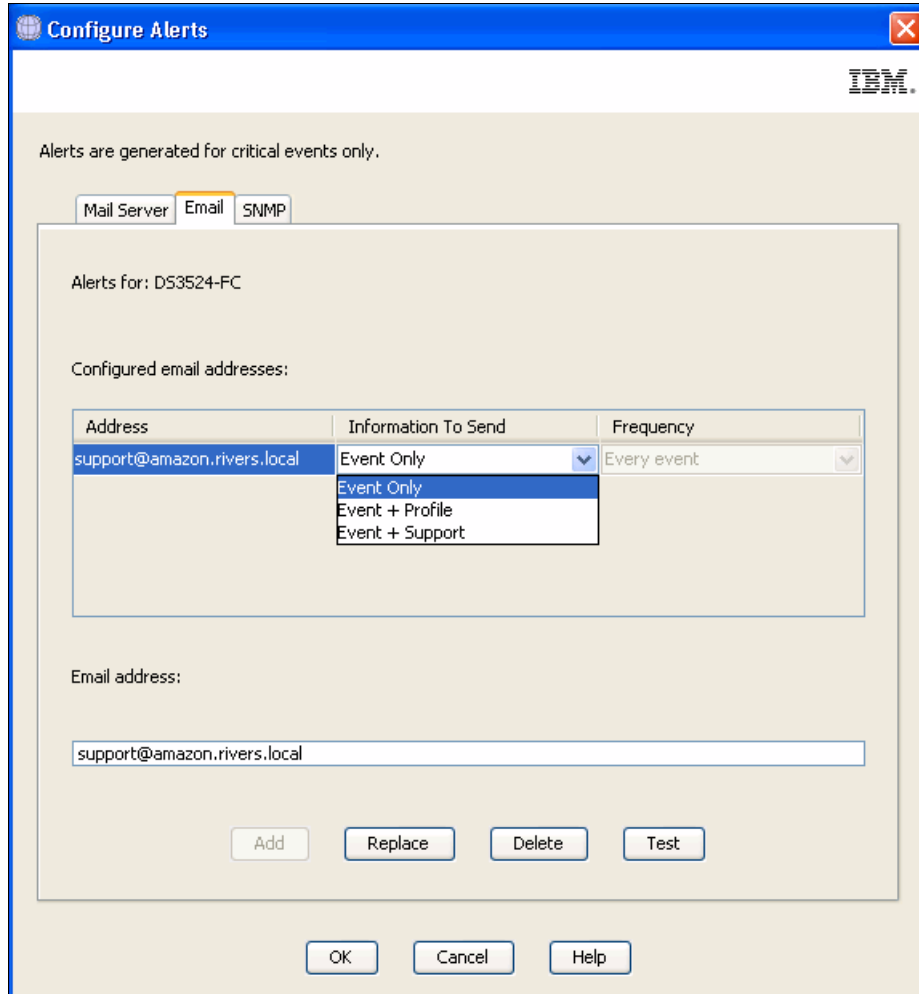

Figure 6-13 Configure Alerts - Defining email address
2. Select the **Email** tab to configure the email address to which the alerts are sent. Enter the email addresses and click **Add** as shown in Figure 6-13 on page 168.
- Now your window should look similar to Figure 6-13. In the drop-down menu next to the Address, you can select which information should be sent and how often the data should be delivered. If you highlight an Address, you can also send a test email to validate that your configuration is working.